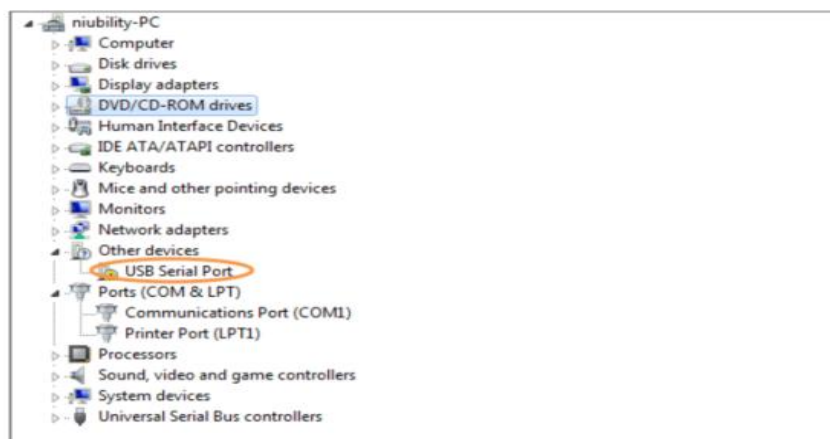

Figure 5-9 Unrecognized USB Serial Port on PC
- Open PC **Device Manager**, if you find an unrecognized USB Serial Port in Device Manager as shown in **Figure 5-9**, you should install the UART to USB driver before you run the demonstration.